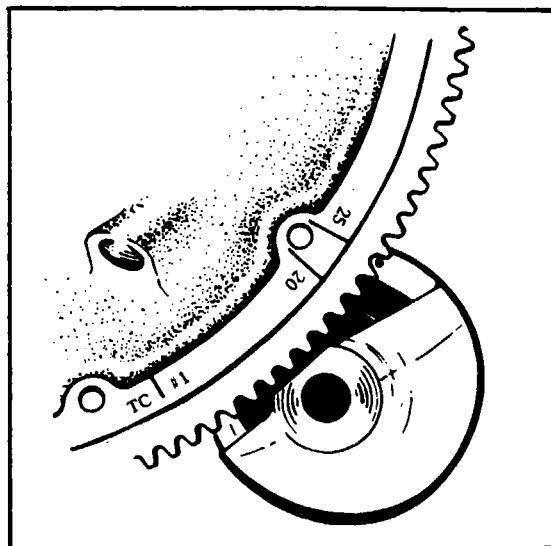

Figure 8-19. Engine Timing Marks
- b. Continue turning the crankshaft until the advance timing mark on the starter ring gear is in alignment with the small hole located on the top face of the starter housing at the two o'clock position. (Refer to Figure 8-19.)